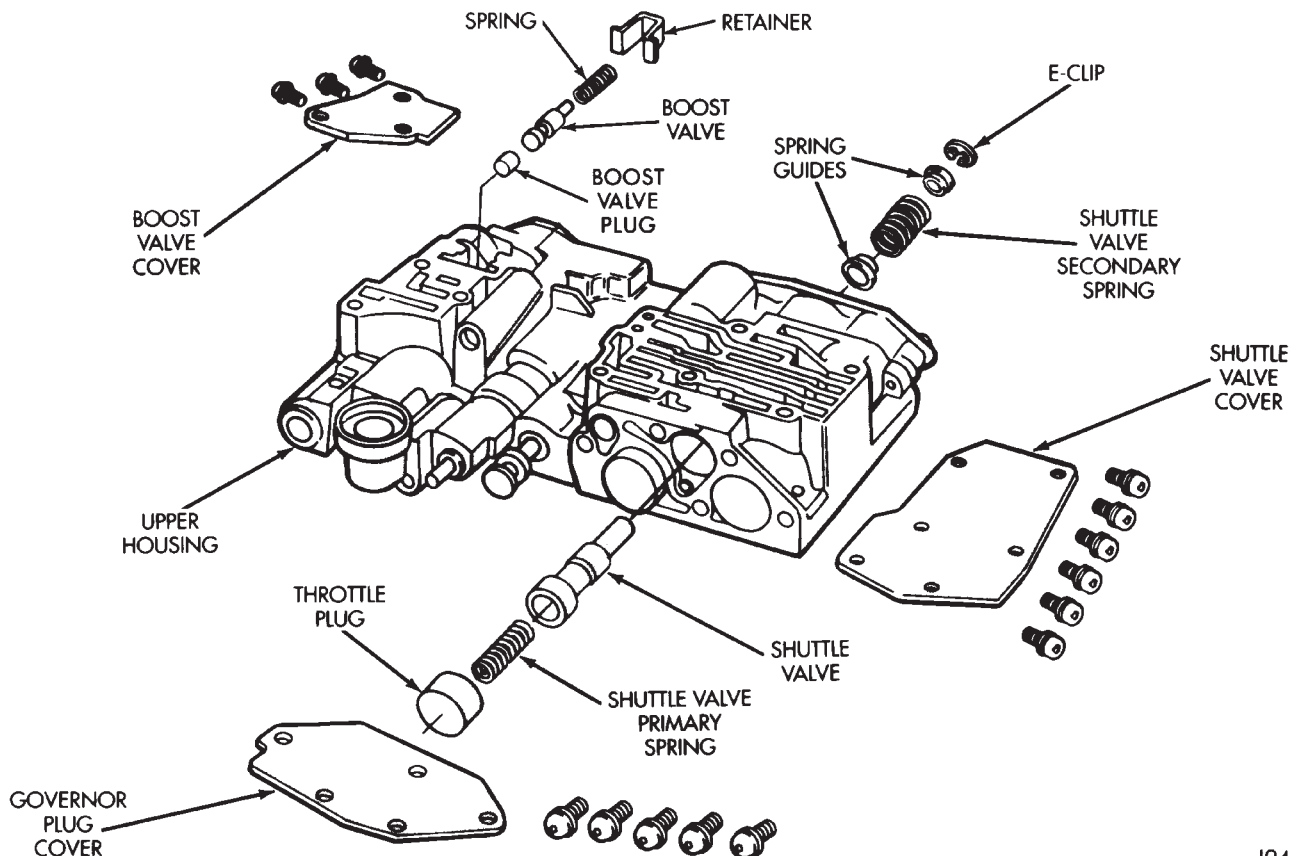

Fig. 64 Shuttle And Boost Valve Components
(2) Remove governor plug and shuttle valve covers (Fig. 64).
(4) Remove throttle plug, primary spring, shuttle valve, secondary spring, and spring guides (Fig. 64).
(5) Remove boost valve retainer, spring and valve if not previously removed.